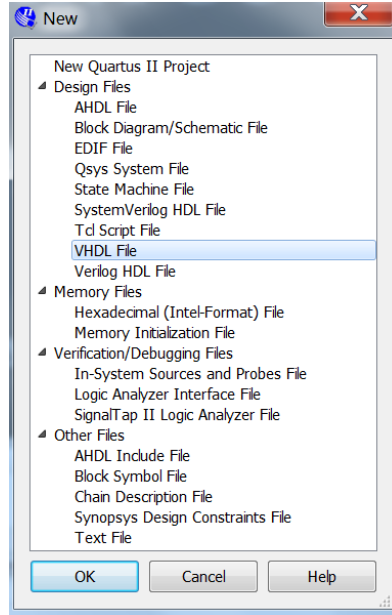

Figure 3
- (a) From the file menu, select new. From the Menu, select the type of design file you would like to create (in this case VHDL), then click OK, as shown in **Figure 3**.